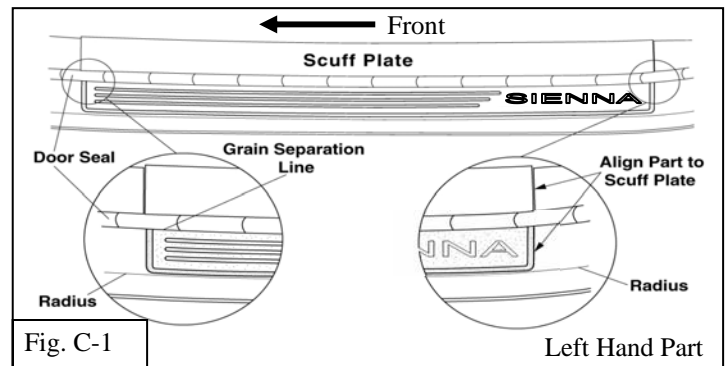

Fig. C-1
- i. Align the outside border (grain separation line) of the applique visually directly below outer edge of door seal. (Fig.C-1)